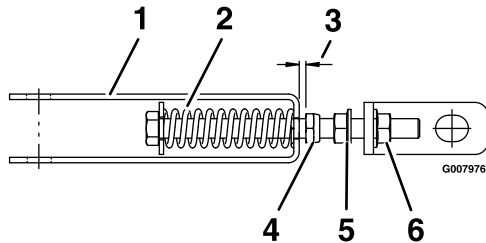

Figure 15
7. Engage the park brake. Measure the gap between the thin nyloc nut and the park brake clevis. The gap should measure 1/8 inch (3.2 mm) (see Figure 15).